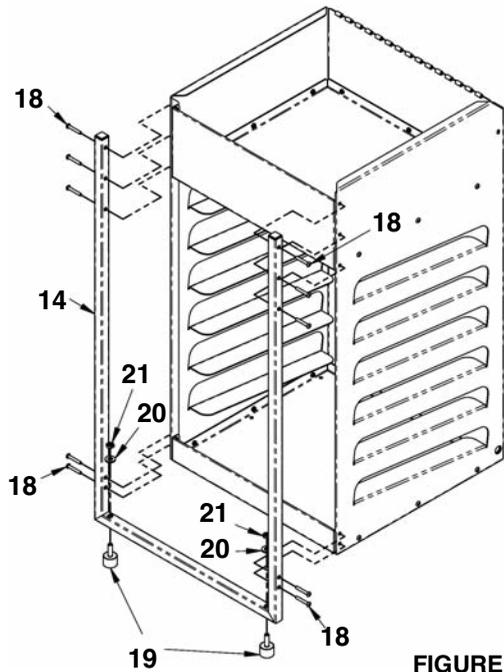

FIGURE 5
5. Flip the cart over so the bottom of the cart is pointing up. Install the two rubber bumpers (#19) into the support frame (#14) and secure with two 8mm flat washers (#20) and two 8mm x 1.25 hex jam nuts (#21) as shown in figure 5. Install the support frame #14 onto the front edge of both side panels securing with ten #10-32 x 1 1/4" screws (#18). Do not fully tighten.